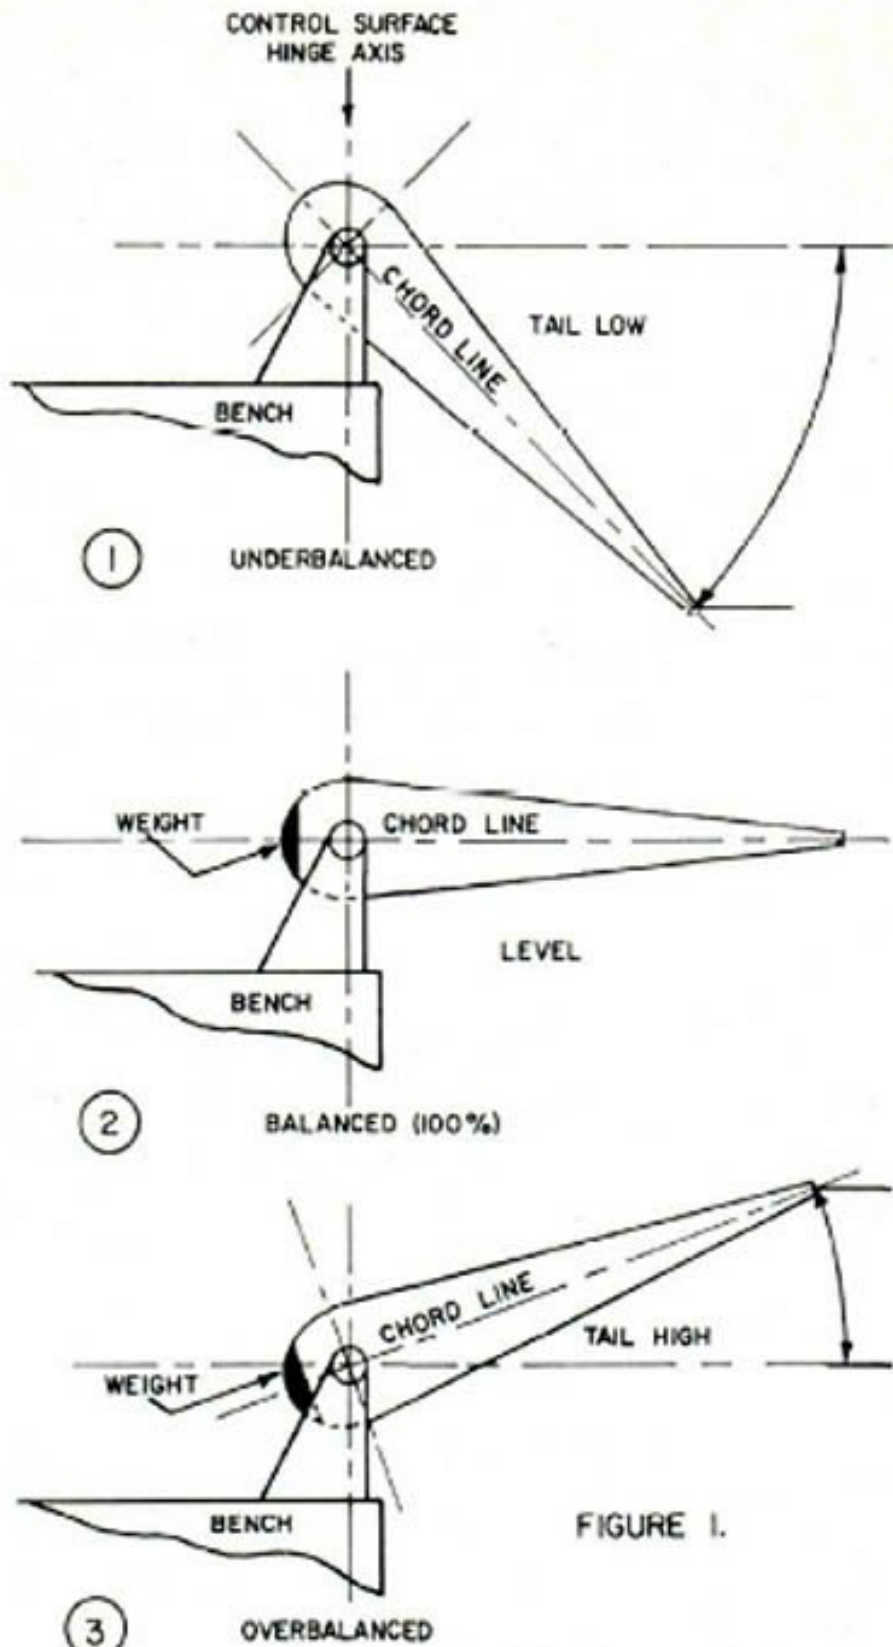

FIGURE 1.
1. If the control surface assumes a trailing-edge-low attitude, it is statically under-balanced and a tail-heavy condition exists. See Figure 1.